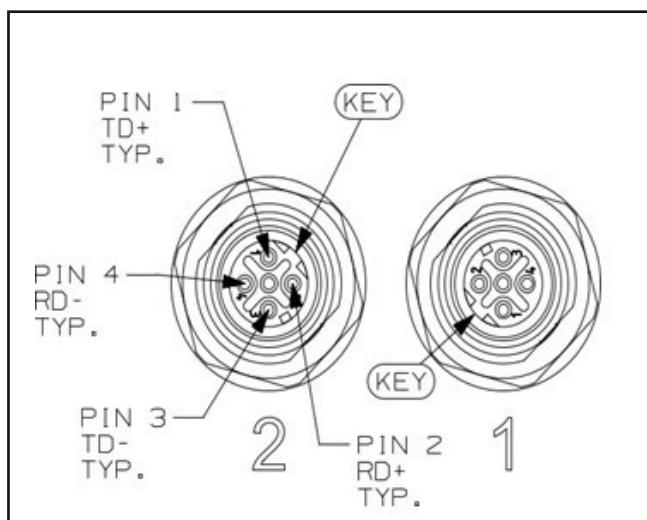

Figure 1-9 M12, 4 Pole Female D connector for
See figure 1-9 for M12 Communications Connectors
- In and Out ports with M12 connectors labeled “1” and “2” (Figure 1-9)